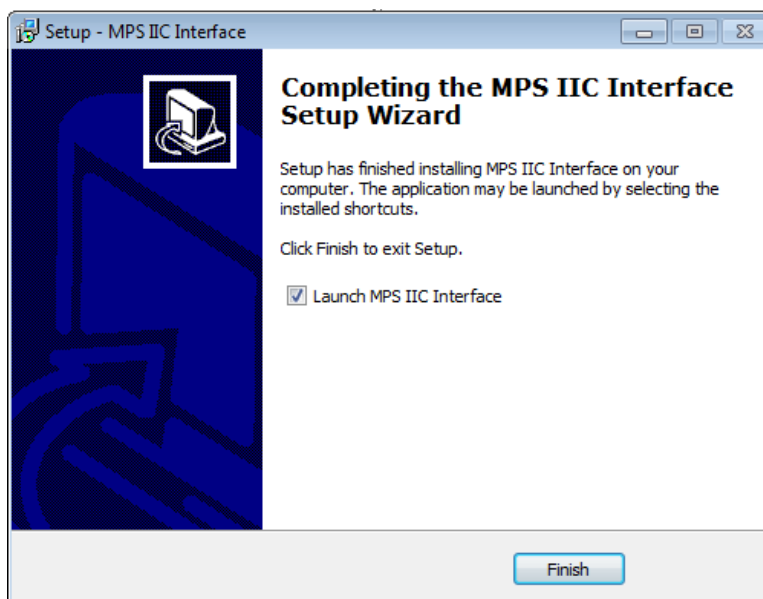

Figure 5: I²C GUI Set-Up Success
5. Wait for the status screen to verify that installation is complete (see Figure 5).